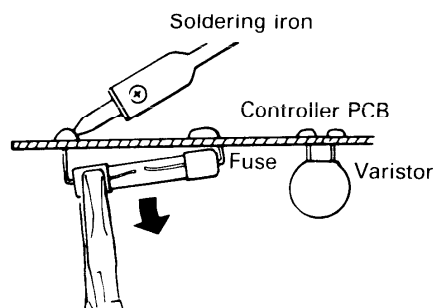

Fig. 10
2. Pull out the fuse at the metal clasp by a pair of pliers while heating the soldered leads on the back side of the controller PCB with a soldering iron (30W or 60W). Fig. 10.